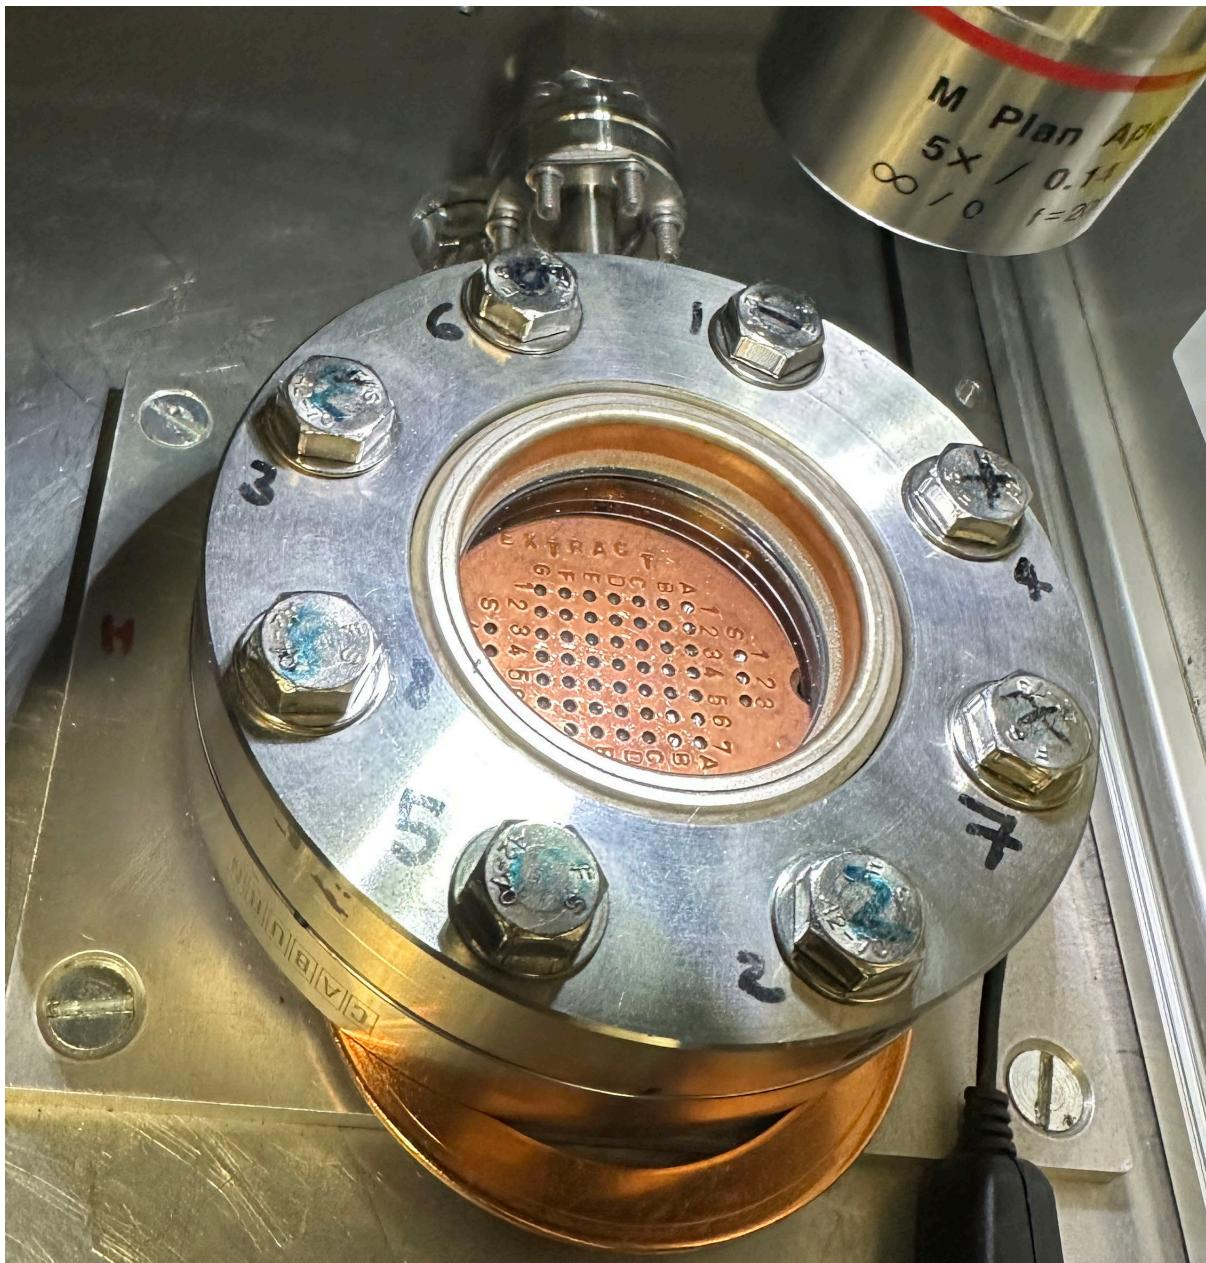

Figure 2: Planchet in Laser Chamber
5. A 4 mm bolt is kept in a petri dish next to the laser port. If samples have been unloaded previously it may already be screwed into the planchette. If not, screw this bolt, handling only the cap head end, into one of the threaded holes in the planchette, and carefully lift the planchette into the sample chamber. Align the planchette so that hole number 1 is in the top right of the chamber as you are viewing it (Figure 2). Carefully remove the bolt. Place a new copper gasket (do not reuse old gaskets!) onto the recess in the sample chamber port. Make sure there are no bits of plastic/hairs/etc on the gasket these will cause a leak.